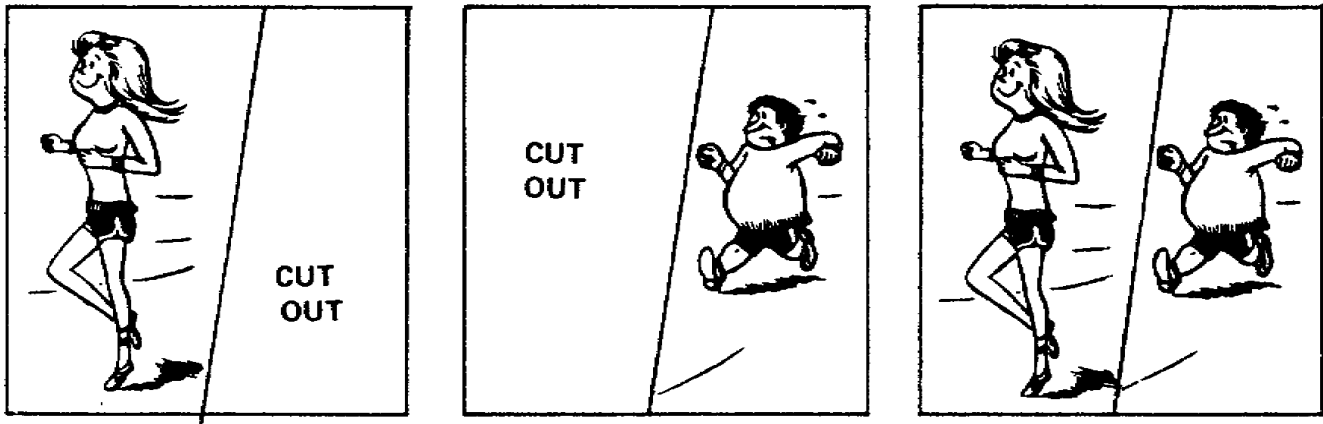

Figure 3-12. Splicing
(2) Method two as shown in Figure 3-12. Cut away the unwanted parts of both negatives so the two negatives can be taped together to form one. This is called splicing or stripping. You may use red cellophane tape for opaque areas but you must use clear tape for transparent areas.